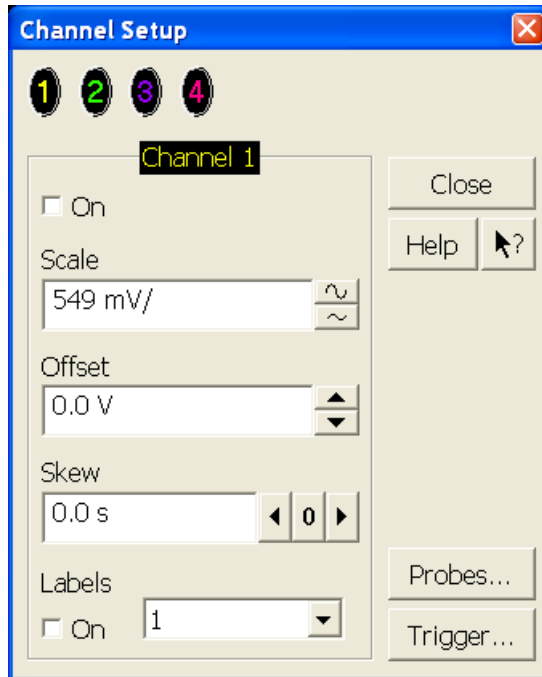

Figure 32 Channel Dialog Box
- 2 In the Channel Setup dialog box, select the Probes... button, as shown in Figure 32.